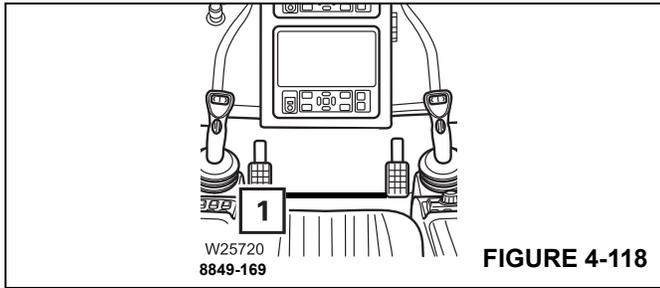

FIGURE 4-118
- Depress the brake pedal (1), (Figure 4-118). Do not brake to such a degree that the load starts swinging.